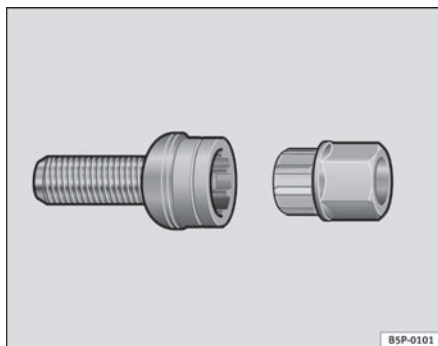

Fig. 145 Anti-theft wheel bolt
- Insert the adapter onto the wheel bolt and push it on as far as it will go ⇒ fig. 145.